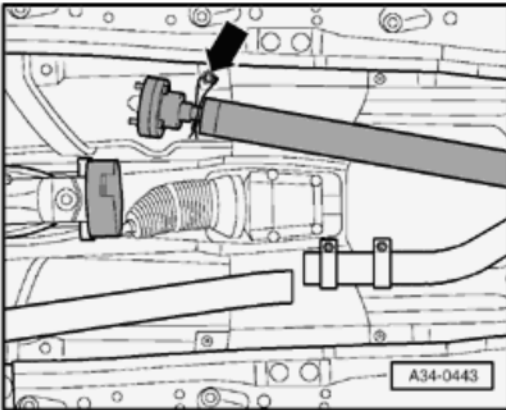

Fig. 92: Drive Shaft Secured With Wire And Locating Speed Nut
- Disconnect driveshaft -2- from transmission and secure at side with wire. Refer to **Fig. 92**.